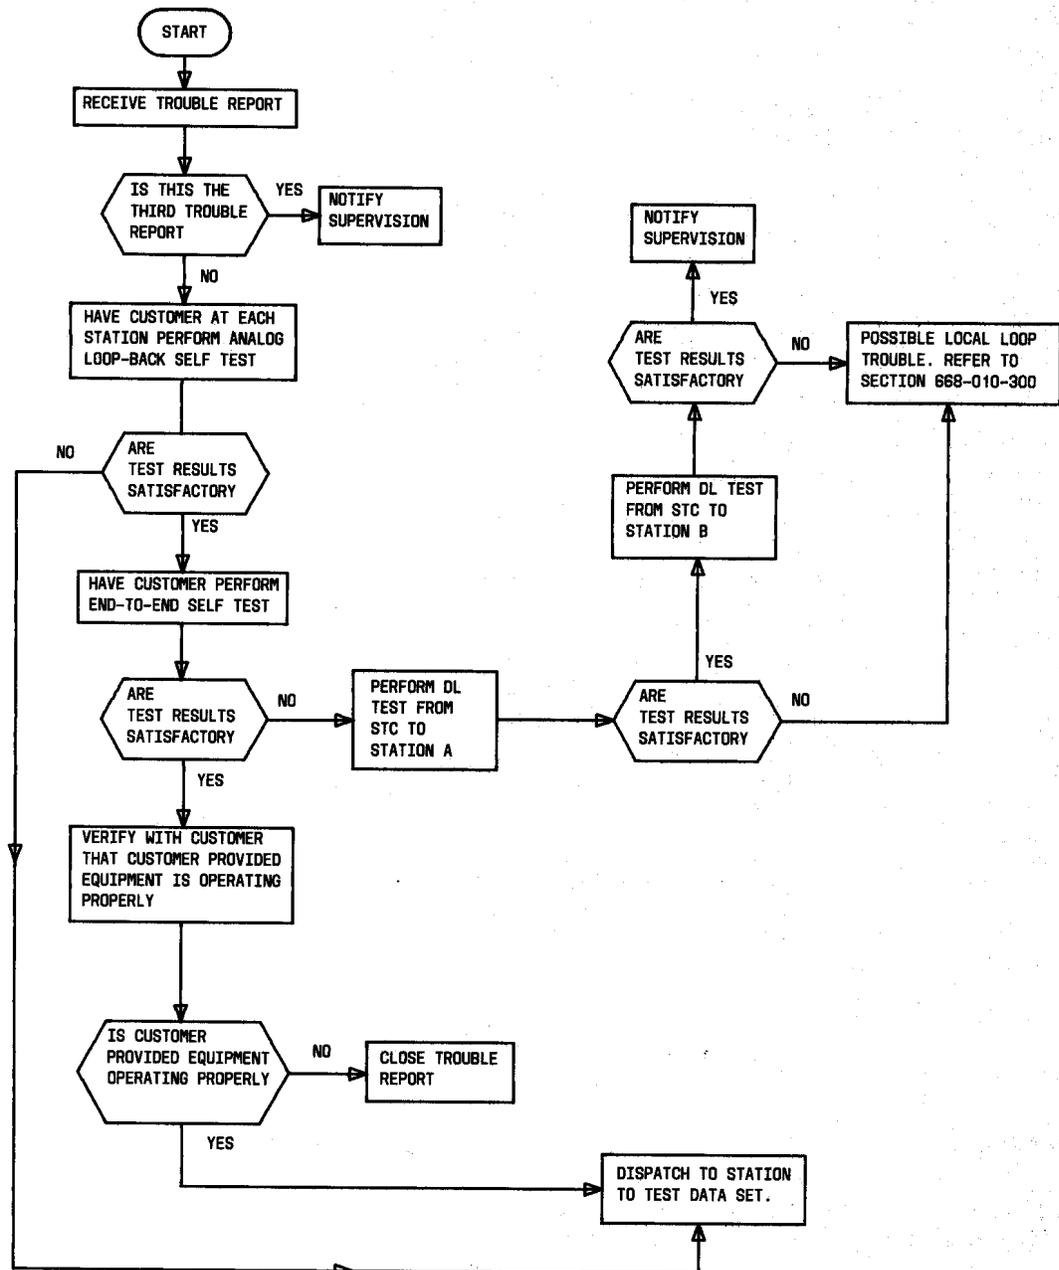

Fig. 2—Clearing Trouble Report
3.02 When a trouble report is received, the DTC is responsible for isolating the trouble to the data set or transmission facility. The procedure for doing this is shown in Fig. 2.